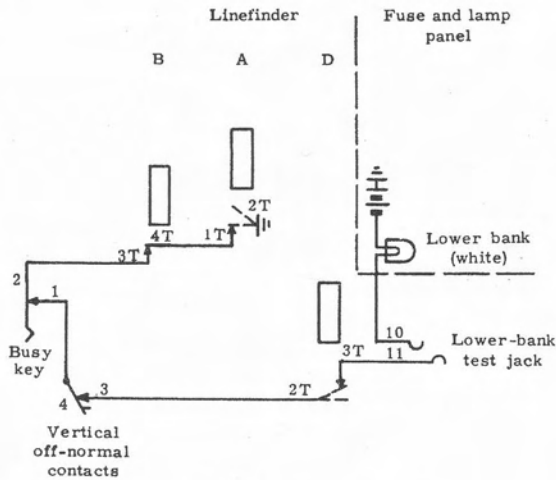

Figure 35. Circuit for lower-bank test to determine which wipers of a 200-line linefinder are in use.
6.51 Tracing a call or a “permanent” (figure 35). If a 200-line linefinder is connected to a line in its lower bank, its relay D is operated (§4.5), and if a switchman presses together linefinder test-jack springs 10 and 11, the linefinder-shelf LOWER BANK lamp lights. If the linefinder is connected to an upper-bank line, relay D is not operated and when test-jack springs 10 and 11 are pressed together the LOWER BANK lamp will not light.